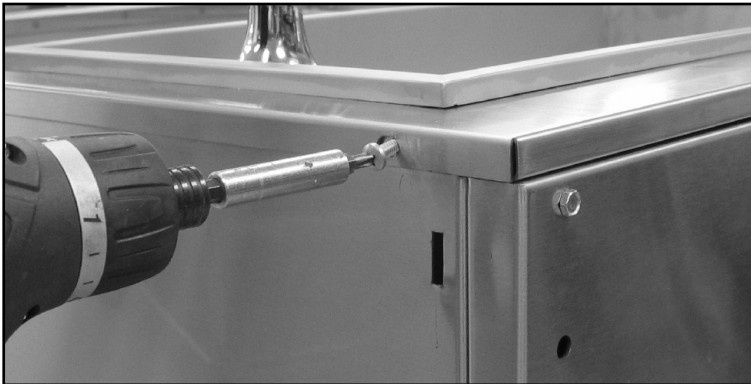

Fig. 47
- D. Secure the head to rear of cart (Fig. 47) with (2) Phillips-head screws provided (10-24 x 1/2").